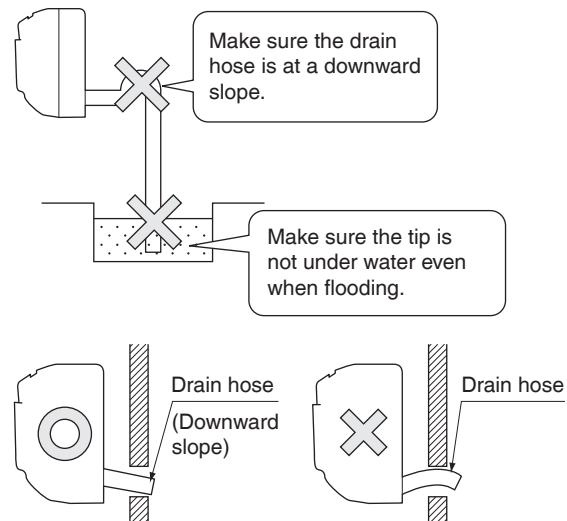

Fig. 16
(1) Install the drain piping. (Refer to Fig. 16)
- Watch out for the points in Fig. 16 when performing drain work.